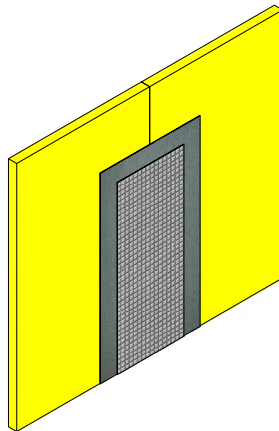

Figure 2
2. Lay the Sheathing Fabric into the wet Senershield-R/-RS/-VB. (See Figure 2)